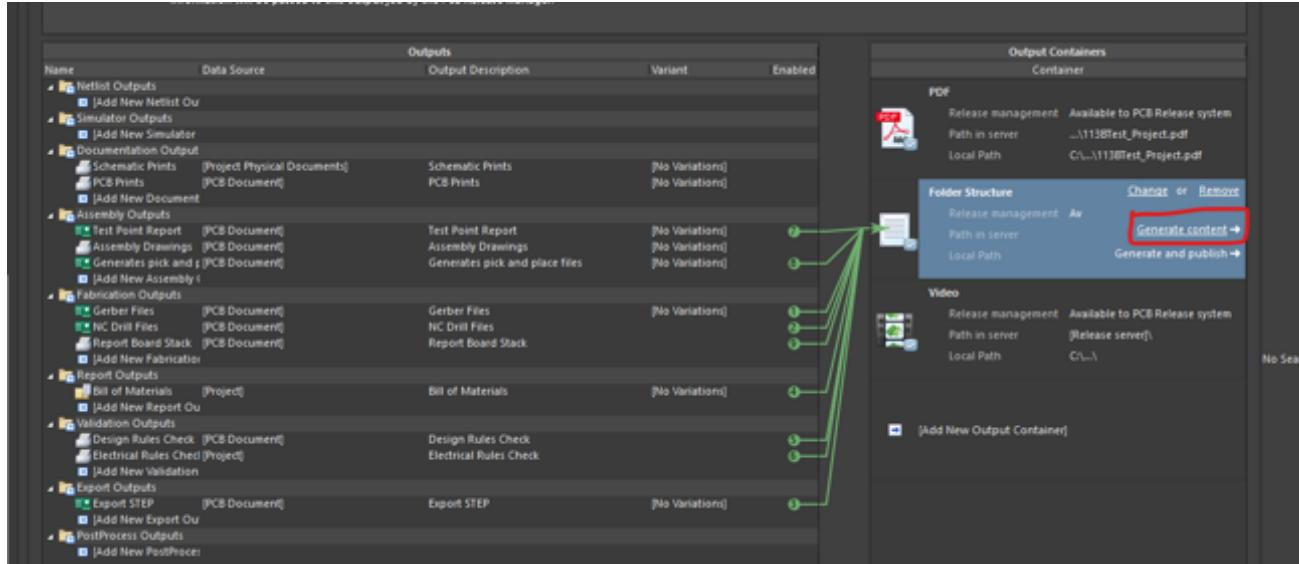

Figure 2: ‘Generate Content’ option.
5. To generate gerbers and NC drill files, click on ‘Generate Content’ under ‘Folder Structure’ as shown in Fig. 2. Altium will now generate the output files in the directory ‘Project Outputs for xyz’ in your file system where xyz is your project name as shown in Fig. 3.